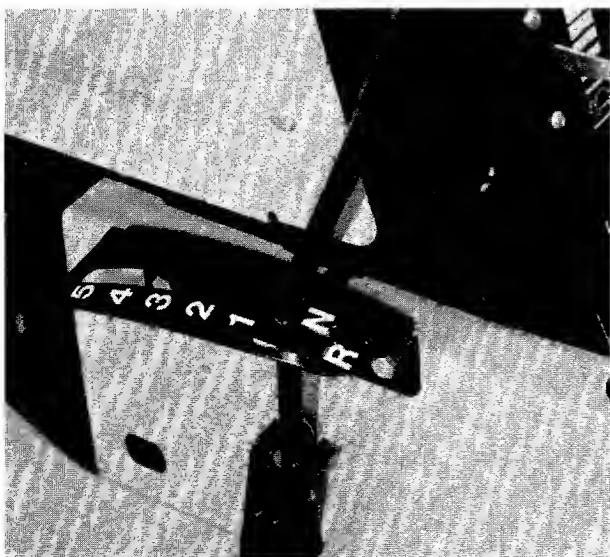

FIGURE 10.
The transaxle has five forward gears, neutral and reverse. **Do not** shift through the gears on the transaxle as you would in an automobile. Pre-select the gear appropriate for the job you are doing. See figure 10.
3. Place the gear shift lever in the "NEUTRAL" (N) position. See figure 10.
6. Select one of five forward gears. See figure 10.